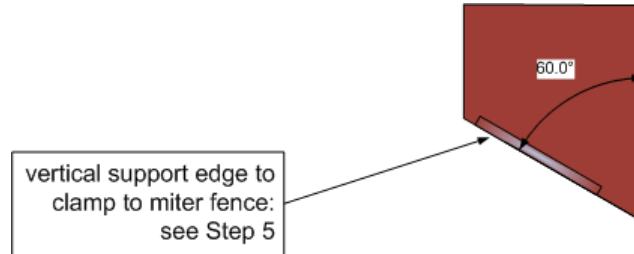

Figure 2. Sixty Degree Jig
Step 1. (Preliminaries) Cut a length of stock to width $2r$. The length is not critical but should be at least $2R$ but does not need to be significantly more than that. Make a jig, for example of $\frac{1}{2}$ in. MDF, in the form shown in Fig. 2 to be used as a stop block in Step 5. The size is not critical except for the 60° vertex.